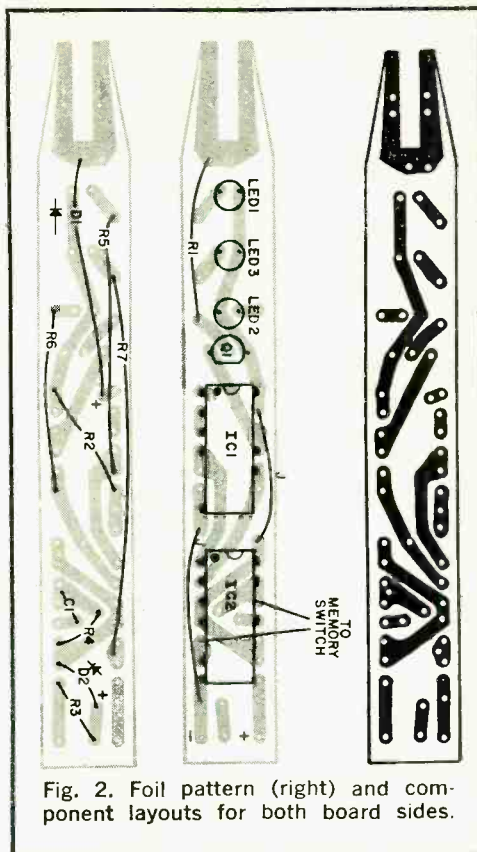

Fig. 2. Foil pattern (right) and component layouts for both board sides.
**Construction.** To keep the project as compact as possible so that its simple circuit (see Fig. 1) will fit into the penlight body, printed circuit construction is highly recommended. An actual-size etching and drilling guide is shown in Fig. 2. Also shown are two component placement guides, since the components mount on both sides of the board.